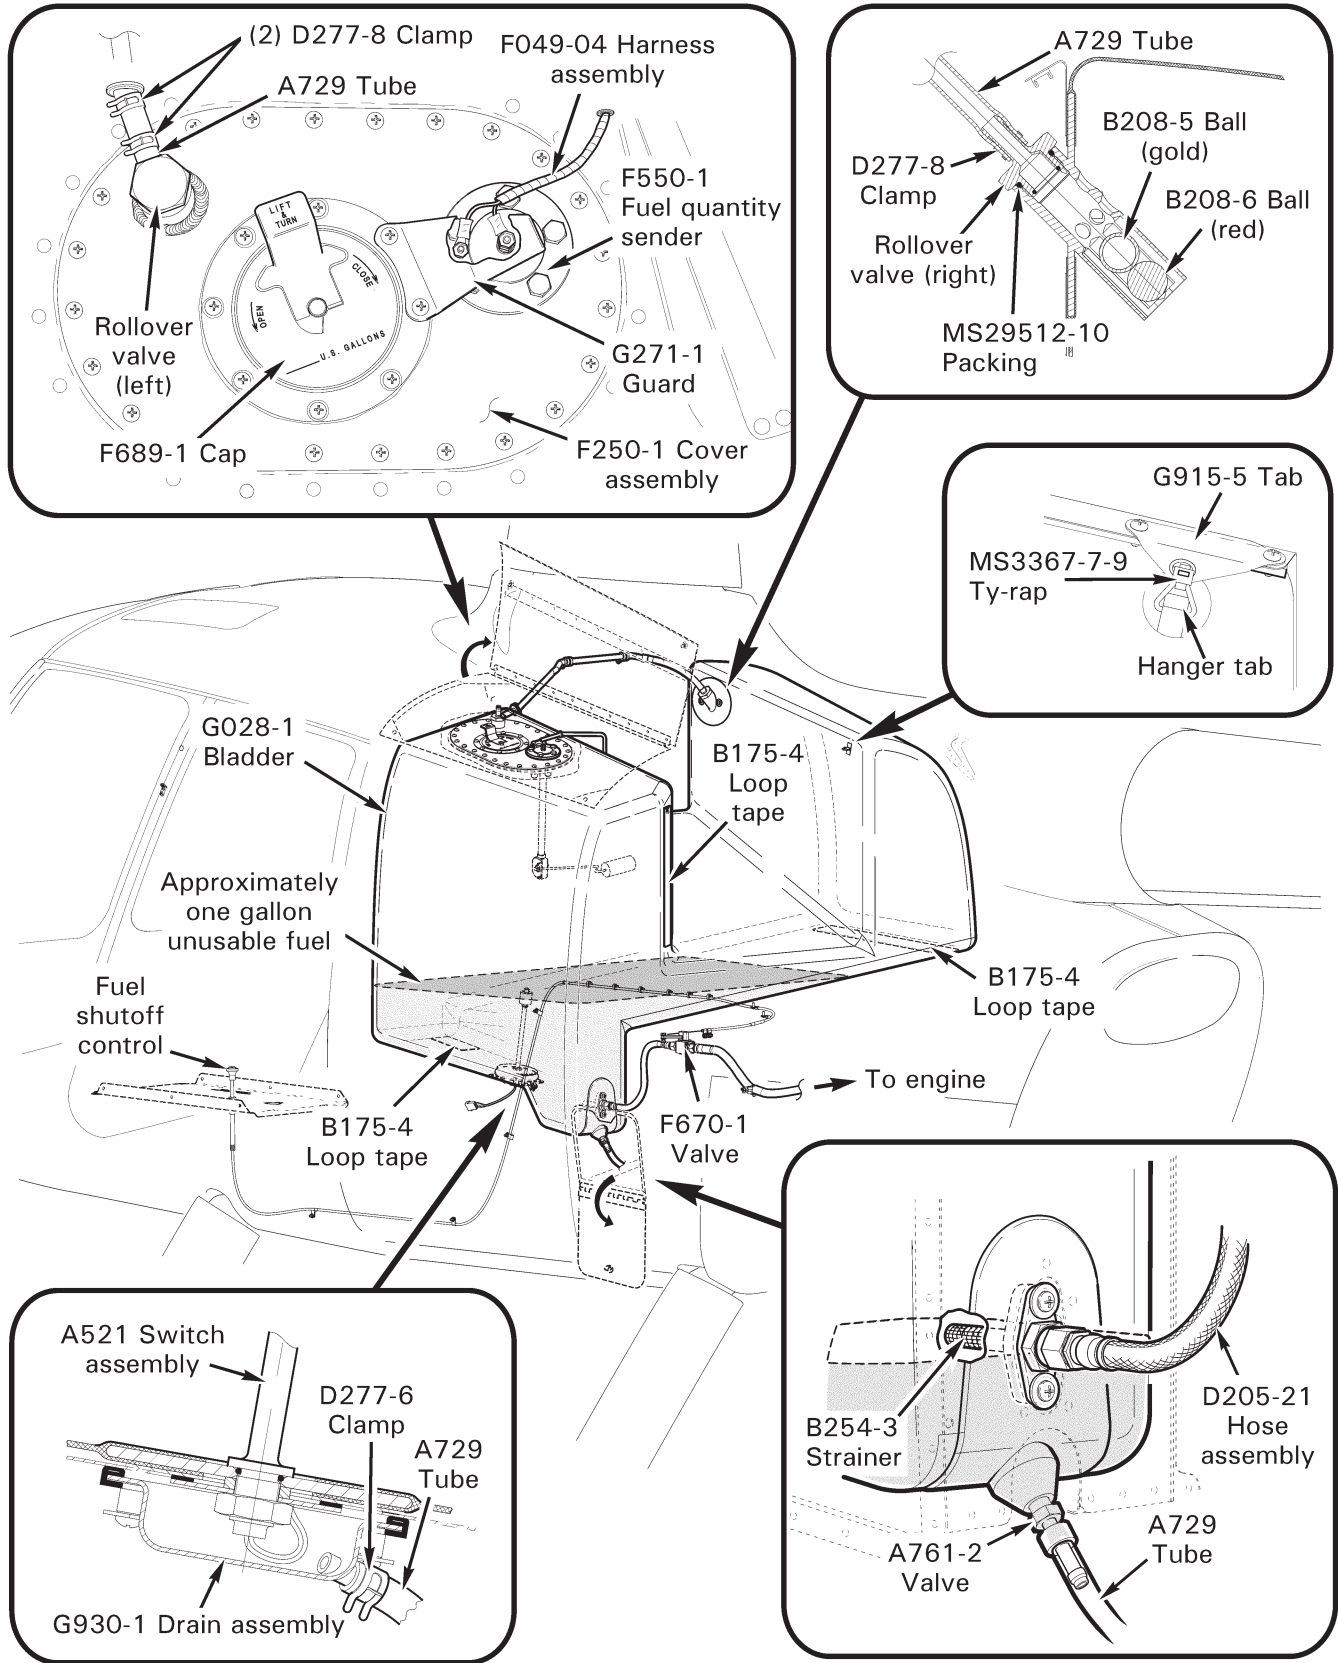

FIGURE 28-1 MAIN FUEL SYSTEM
4. Refer to Figure 28-1. Remove D277-8 clamps or cut and discard safety wire securing A729 tube to left rollover valve and pull tube off of valve. Remove screws securing F250-1 cover assembly to G028-1 bladder assembly and F028-1 support assembly and remove cover. Remove and discard o-ring.
1. Refer to Figure 28-1. Dust exterior of G028-1 bladder assembly and F028-1 support assembly floor with talcum powder to facilitate bladder slippage along metal surface. Do not allow powder to enter bladder.
2. Refer to Figure 28-1. Remove D277-8 clamp(s) or cut and discard safety wire securing A729 tube to rollover valve and pull tube off of valve.
2. Refer to Figure 28-1. Cut and discard safety wire (if installed) securing A729 tube to A761-2 or 1250H (sump) valve and remove tube.
2. Refer to Figure 28-1. Lightly coat valve threads using B270-6 sealant. Remove tape and install valve in bladder outlet. Special torque A761-2 valve per § 20-33, or standard torque 1250H valve per § 20-32, and torque stripe per Figure 5-1.
2. a. Main tank: Refer to Figure 28-1. Remove screws securing G271-1 guard to F250 cover assembly and remove guard.
3. a. Main tank: Refer to Figure 28-1. Remove tape and carefully lower F550-1 fuel quantity sender lever through F250-1 cover assembly opening.